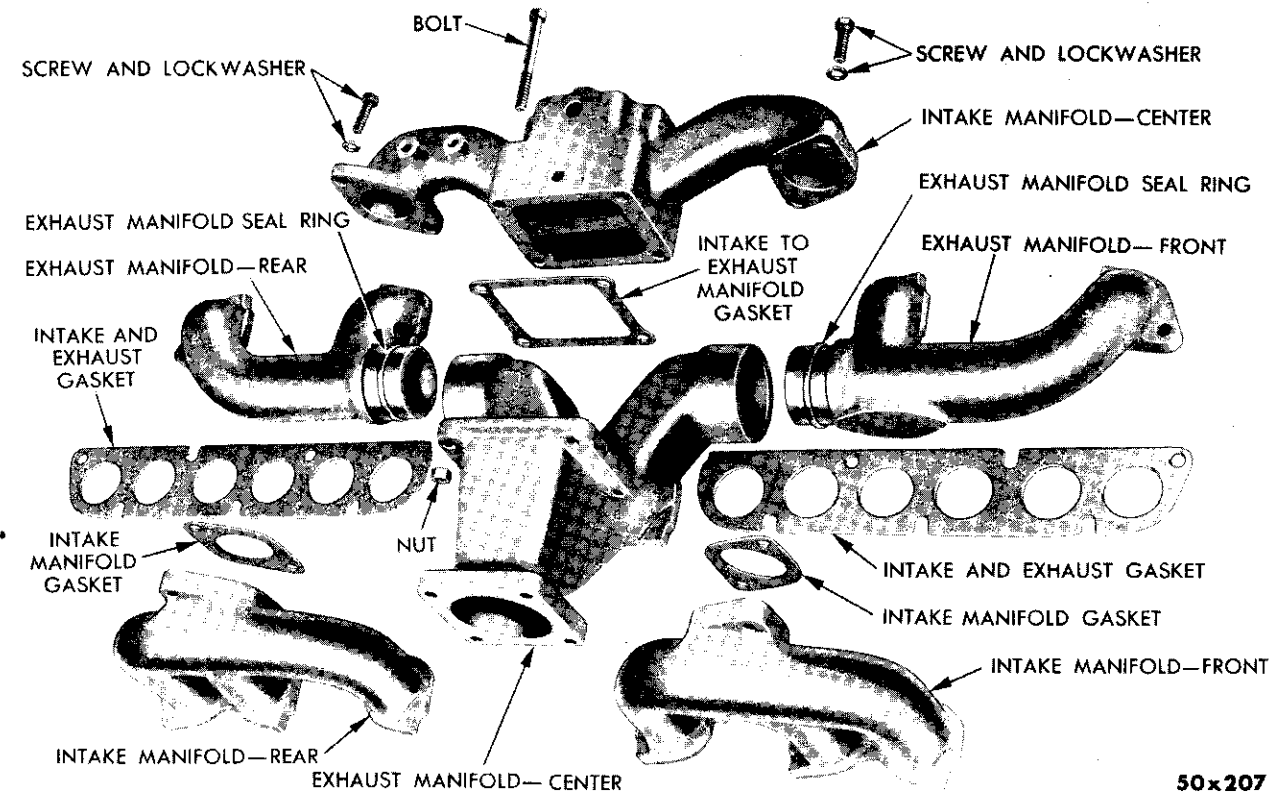

Fig. 1—Exhaust and Intake Manifolds (Disassembled View)
The exhaust system consists of the exhaust and intake manifolds, heat resistant gaskets between the intake manifold and the cylinder block, the exhaust pipe, muffler, tail pipe and a manifold heat control valve (if truck is so equipped). See Figures 1 and 2 and also refer to Service Standards.
2. SERVICING EXHAUST AND INTAKE MANIFOLDS (EXCEPT B-4-R, B-4-T, B-4-V, AND B-4-Y) (FIG. 1)
To remove the exhaust and intake manifolds (all models except B-4-R, B-4-T, B-4-V and B-4-Y), refer to Figure 1 and proceed as follows: